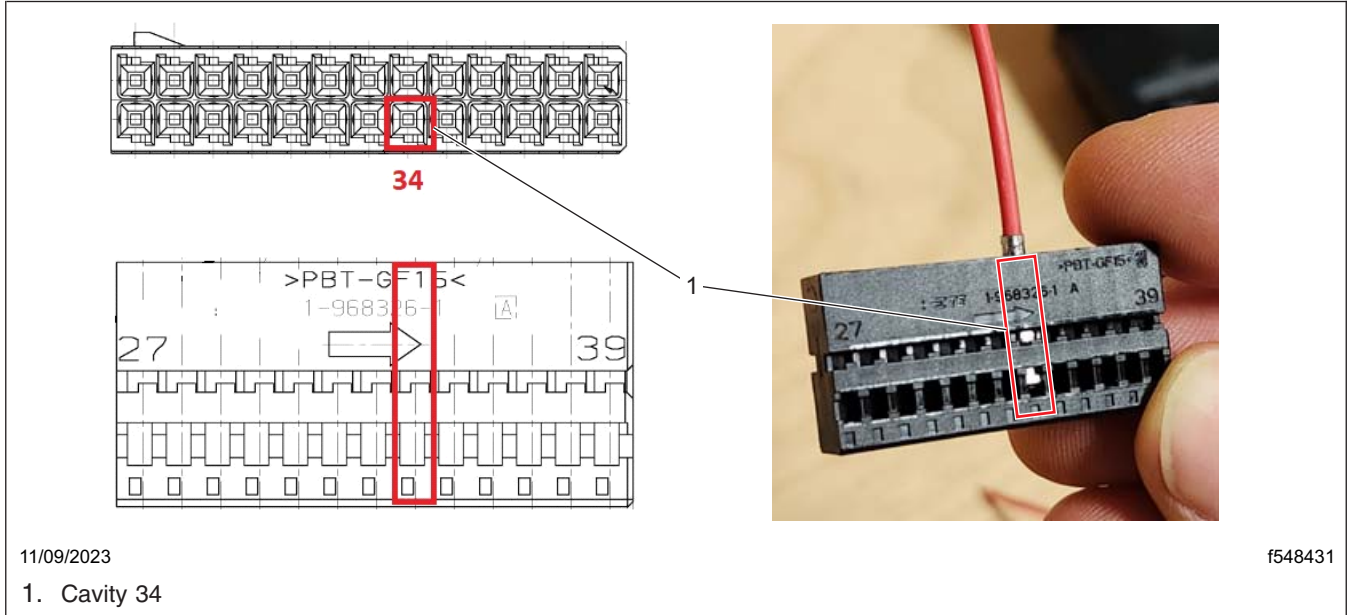

Fig. 52, Inserting the Red Wire into Cavity 34
21. Insert the red wire from the harness into cavity 34 of the black terminal bank. See Fig. 52.